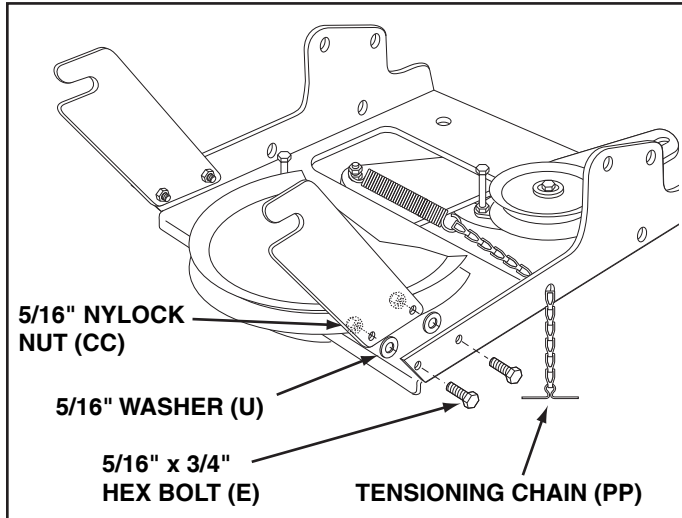

FIGURE 41
STEP 41: (SEE FIGURE 41)
- Attach the two suspension arms to the inside of the clutch/idler assembly using two 5/16" x 3/4" hex bolts (E), 5/16" washers (U) and 5/16" nylock nuts (CC) for each arm. Place the washers between the arms and the assembly frame.